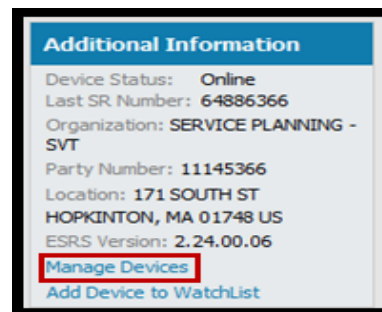

Figure 153 Selecting Manage Devices
- Once you have determined the gateway or virtual edition serial number, select **Manage Devices**, as shown in Figure 153 on page 120. You can then review the current managed device configuration, as shown in Figure 154 on page 120. Note any existing errors or validation issues.